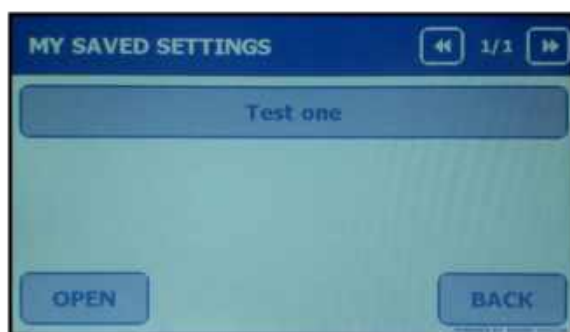

Figure V-14: FastPrep-24™ 5G [SAVED PROGRAMS] Menu Listing
2. Scroll through the pages using the [/>>] buttons until the program location is found \(Figure V-14\).